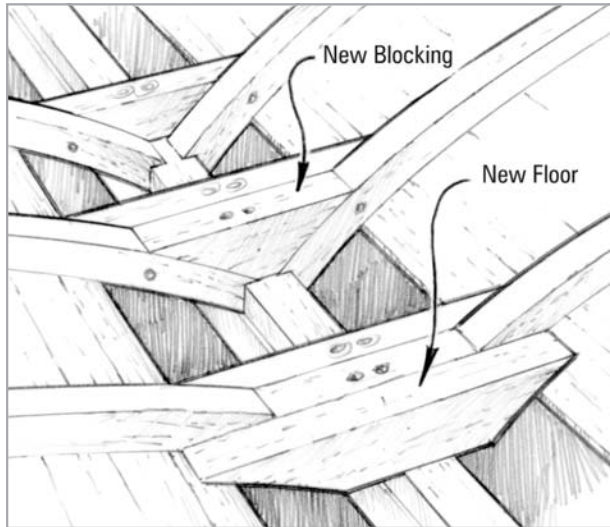

Figure 4-10 Bond new floors and blocking to the keels and frames.
5. Bond the new floors and blocking to the keel and frames (*Figure 4-10*). Wet out all mating surfaces and end grain with resin/hardener mixture. Apply G/flex 655 Adhesive or 105 Resin-based epoxy thickened with 406 Filler. Clamp in position until epoxy cures. Allow the epoxy to cure thoroughly before removing clamps and proceeding with the next step.